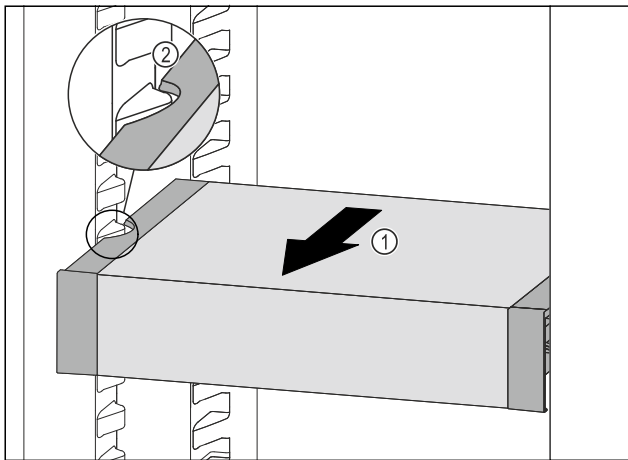

Fig. 144
- Pull VarioSafe forwards Fig. 144 (1) until the recesses in the side of the VarioSafe are at the level of the support rib in the fridge section. Fig. 144 (2)